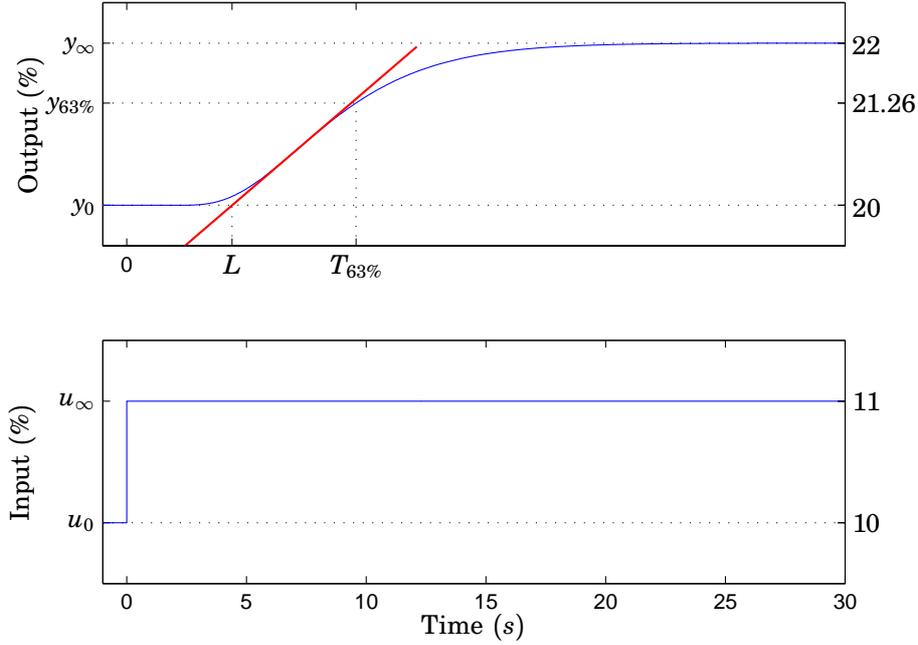

Figure 4 Step response and modeling of a first-order process with a deadtime.
To determine the parameters of the model, a step-response experiment can be carried out. First, the process output should be stabilized near the desired operating point. When all signals are stationary, a step is added to the input signal. The idea is illustrated in Figure 4, where the desired operating point for the output signal is 20%. A step of size 1% has been added to the input signal at time zero, yielding the response shown in the upper plot.
2. Draw a tangent to the output where the slope reaches its maximum value, corresponding to the red line in Figure 4.
For the example in Figure 4 we obtain the following values: